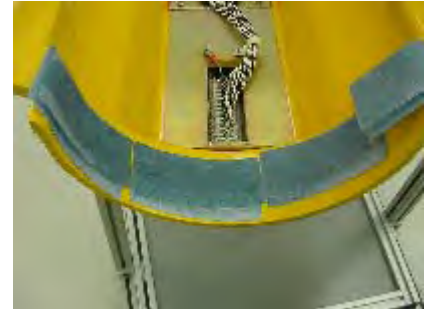

Figure 3
- i. Place a layer of paper towels or strips of rags over the adhesive to be removed as shown in Figure 3.